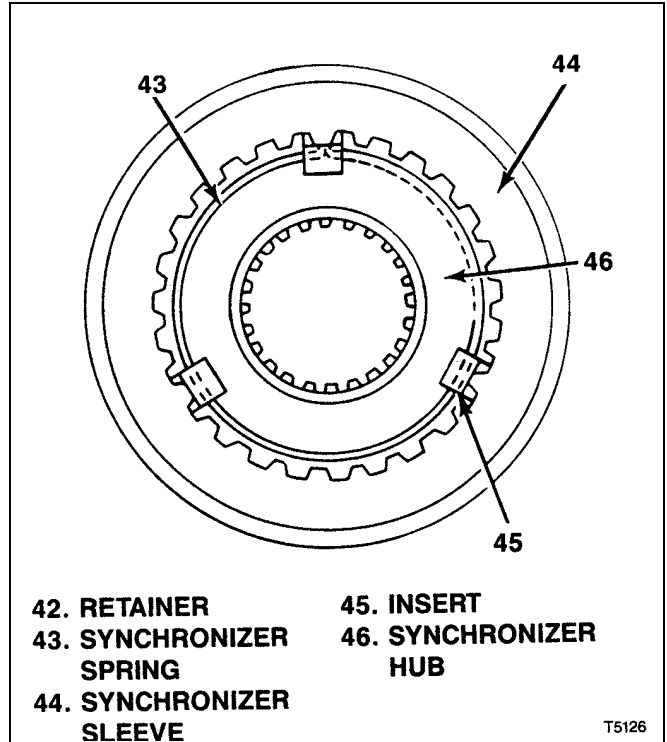

Figure 7-4. T5 STD 5th Synchronizer Assembled
- a. Start sleeve (44) onto hub (46) to a position that will just permit installation of inserts (45). Install insert (45) then engage clutch teeth fully.
- b. Install springs (43) so that tangs at each end of both springs are in the same insert (45) (see figure 7-4).
- c. Position sleeve (44) and inserts (45) so that all inserts snap into neutral position.
- d. Install retainer (42).